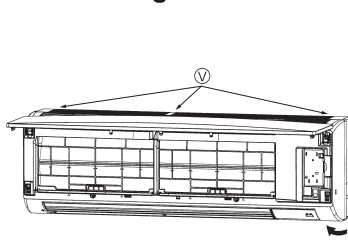
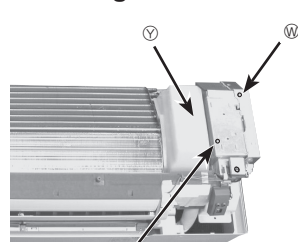

Fig. 6-3
Fig. 6-4
- ③ Unfix 3 hooks. (Fig. 6-3)
- ④ Hold the lower part of both ends of the panel and pull it slightly toward you, and then remove the panel by pushing it upward.
- ⑤ Remove the front and side electrical box covers (each 1 screws). (Fig. 6-4)
- ⑥ Remove the water cut. (Fig. 6-4)